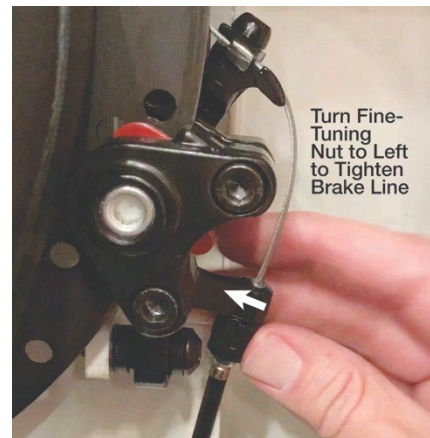

Figure 10-1
4. First, try fine tuning the brake adjustment by turning the fine-tuning nut as shown in Figure 10-1. Turning the nut to the left will tighten the brake line. Adjust this nut until the brake is tight enough to keep the lower wheel from turning when performing the step-3 testing, above. If this doesn't tighten the brake line enough, go to step 5.